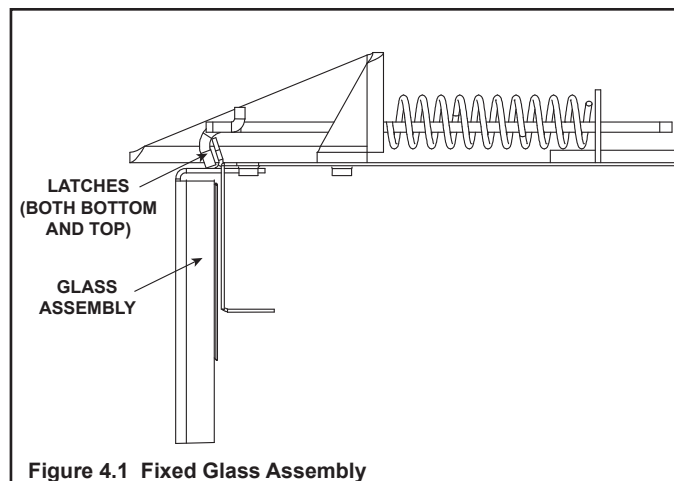

Figure 4.1 Fixed Glass Assembly
- Pull the four glass assembly latches out of the groove on the glass frame. Remove glass assembly from the appliance. See Figure 4.1.
- Pull the four glass assembly latches out of the groove on the glass frame. Remove glass assembly from the appliance See Figure 4.1.